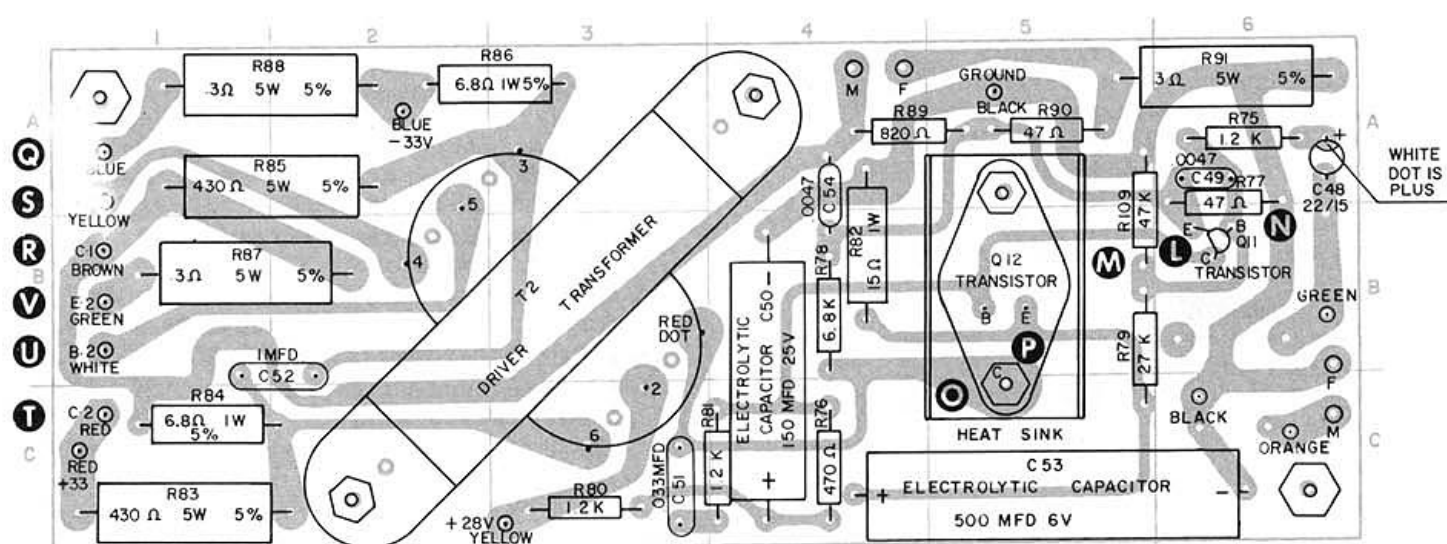

Fig. 2
3. Unplug Red/Black Input leads and Green/Black Output leads from their sockets on the amplifier circuit board. (See Fig. 2).
6. Unsolder the three volume control leads and the six output transistor leads from the transistor side of the amplifier circuit board. (See Fig. 2).
Reverse removal procedure previously outlined. **NOTE:** Use Fig. 2 to verify correct reconnection of leads and power plugs to the amplifier circuit board.
2. **IMPORTANT:** Red dot on transformer's paper cover must face the driver transistor's heat sink. (See Fig. 2).